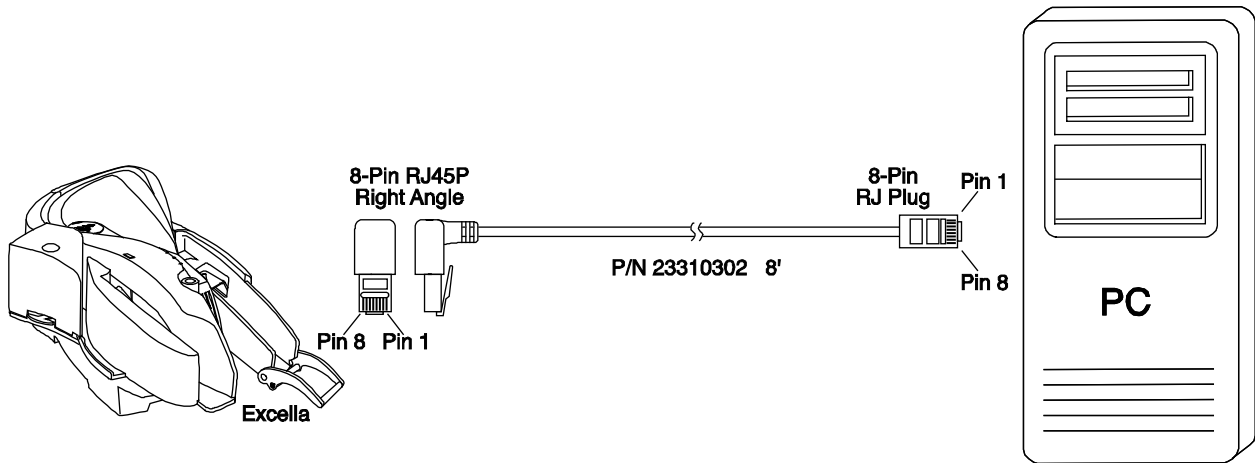

Figure 2-8. Cabling, Ethernet, 8-pin RJ45P, Right Angle, P/N 22310302 or 22310304
- Ethernet – RJ 45P, 8-pin, right angle, P/N 22310302 shown in Figure 2-8 with pin list in Table 2-2
- Ethernet Cross-Over – RJ 45P, 8-pin, right angle, P/N 22310304 shown in Figure 2-8 with pin list in Table 2-3